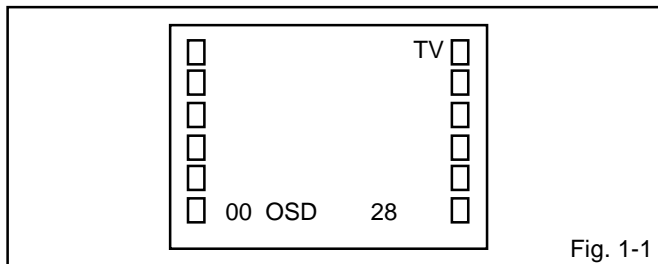

Fig. 1-1
1. In the condition of NO indication on the screen. Press the VOL. DOWN button on the set and the Channel button (9) on the remote control for more than 1 second to appear the adjustment mode on the screen as shown in Fig. 1-1.
3. Activate the adjustment mode display of Fig. 1-1 and press the channel button (01) on the remote control to select "CUT OFF".
4. Activate the adjustment mode display of Fig. 1-1 and press the channel button (10) on the remote control to select "R. BIAS".
3. Activate the adjustment mode display of Fig. 1-1 and press the channel button (05) on the remote control to select "H. PHAS".
3. Activate the adjustment mode display of Fig. 1-1 and press the channel button (07) on the remote control to select "V. SFT".